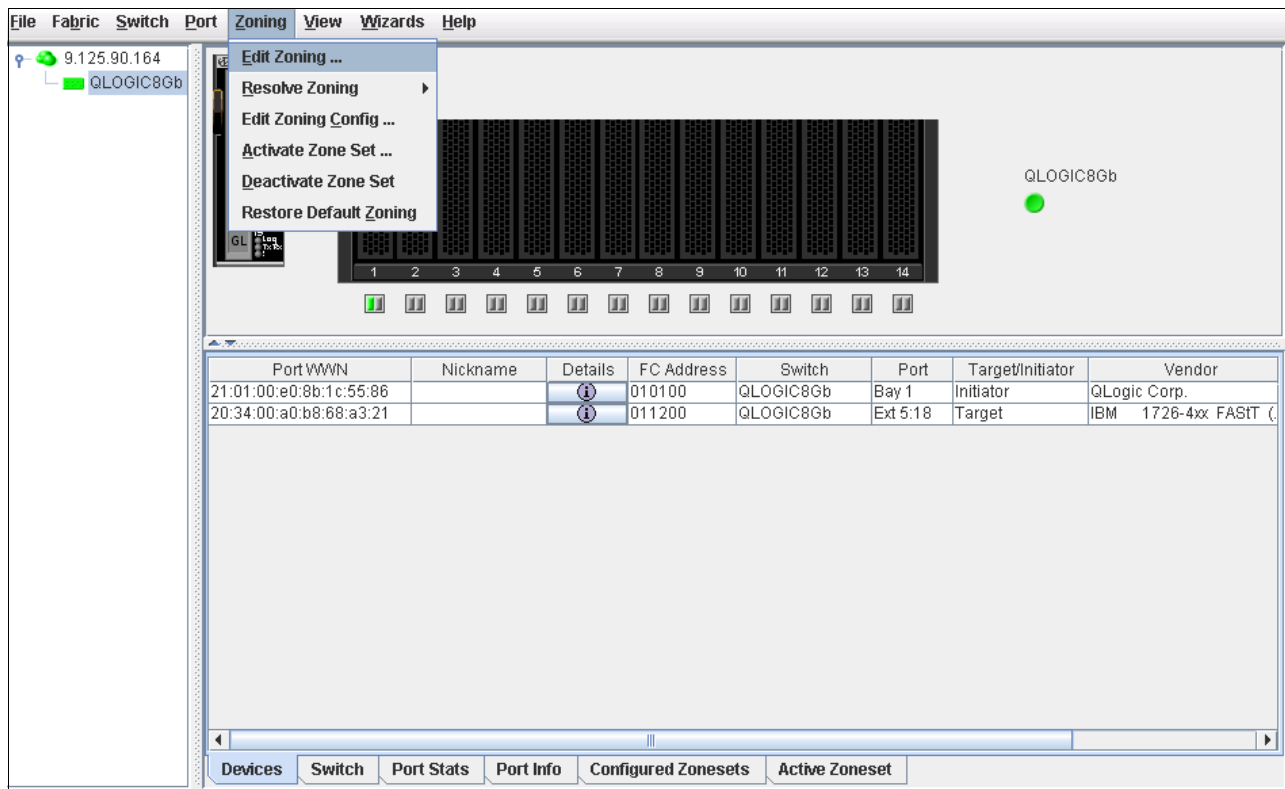

Figure 2-48 Fibre Channel switch web interface
5. Click **Start Session** to start a management web page, as shown in Figure 2-48.